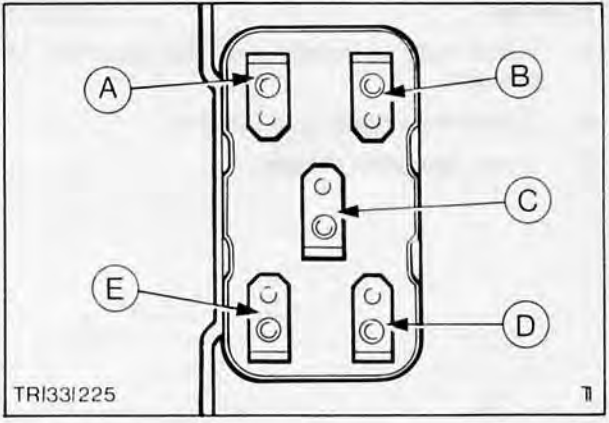

Fig. 48. Relay connections
5. Reconnect loom spade connectors to relay as follows, (also refer to Fig. 48).